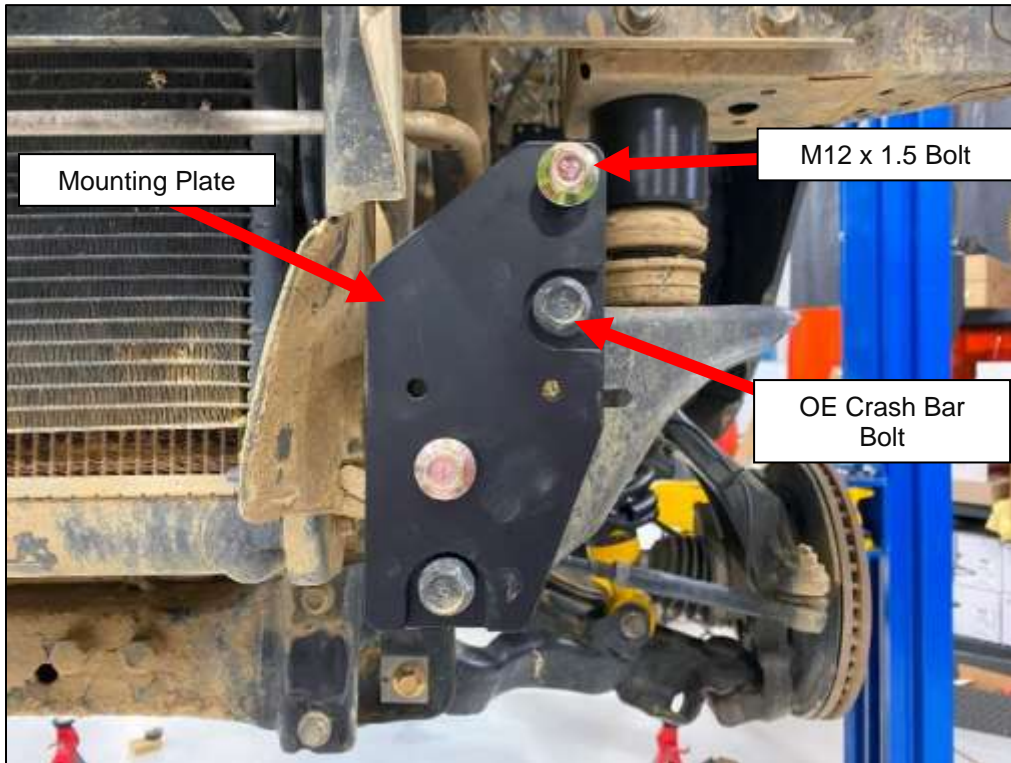

Figure 22
35. Locate the (2) two Front Bumper Mounting Brackets, (4) four M12 x 1.5 Bolts, and the OEM Crash Support Hardware. Position the Brackets onto the front mounting points and use the OEM Bolts to secure the Mounting Bracket. *Figure 22.*